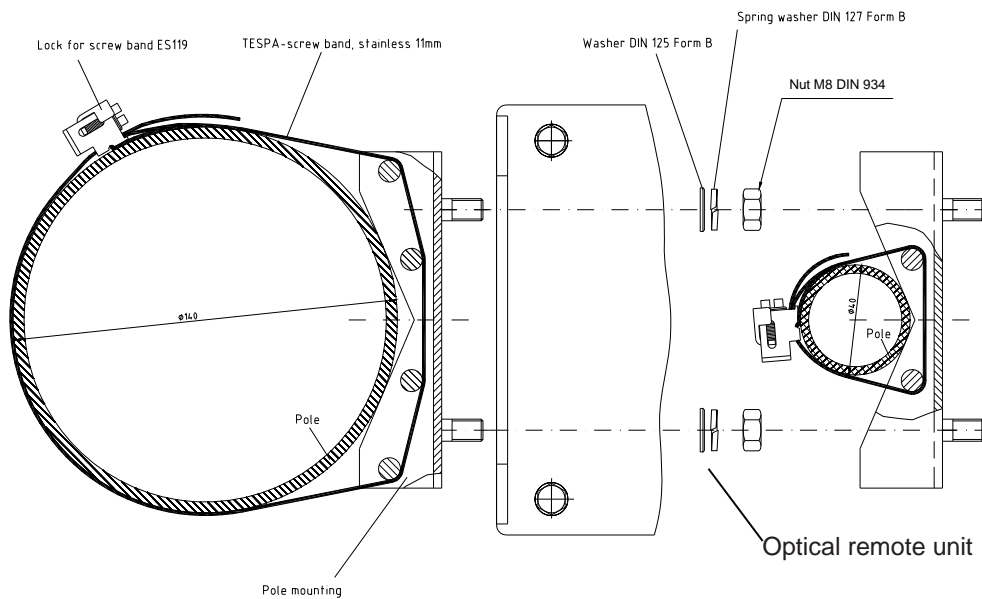

figure 4-3 Pole mounting drawing
- Use the screw bands to fasten the two brackets to the pole as illustrated in *figure 4-3 Pole mounting drawing*.